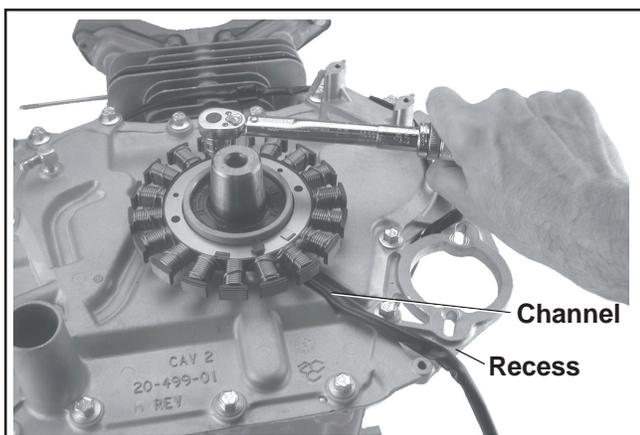

Figure 10-42. Installing Stator.
- Position the stator onto the mounting bosses so that the leads lay in the channel and recess of the closure plate. See Figure 10-42. They will become captured when the blower housing is installed.